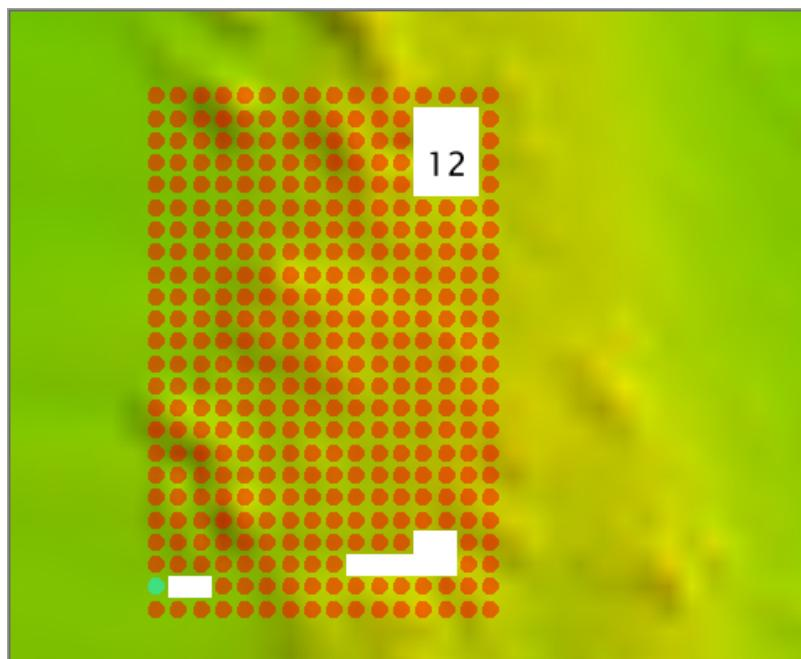

Fig. 2.24: Example for Full coverage.
- In the example in (Fig. 2.24), Full Coverage requirements identify the hole of 12 grid nodes, because there it contains an instance of 3x3 unpopulated grid nodes. The holes with 7 and 2 nodes do not.